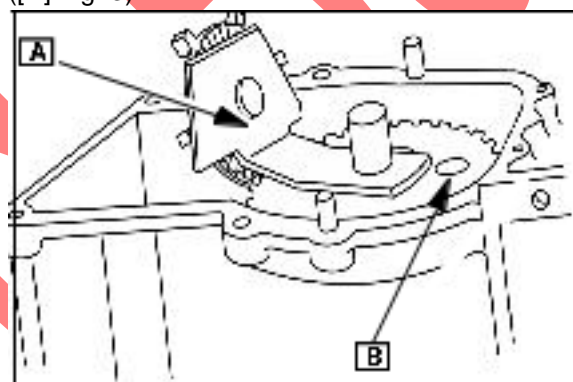

Fig. 3
The oil slinger (A) is driven by the camshaft ([B] Fig. 3).